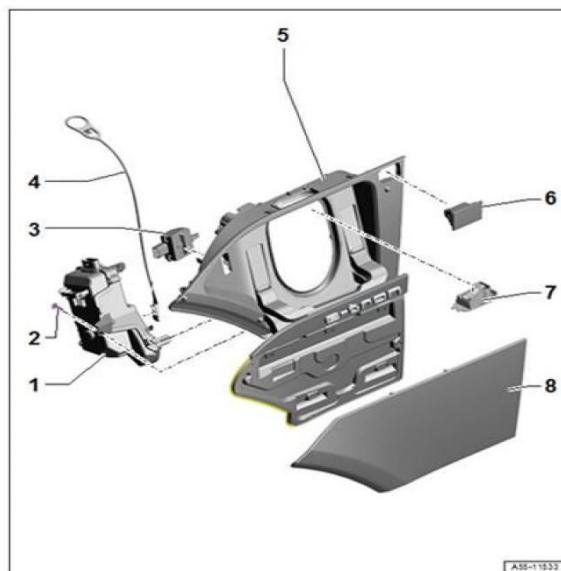

Figure 9: Charging door unit (5) must be removed.
1. Remove charging door unit -5- (Figure 9).